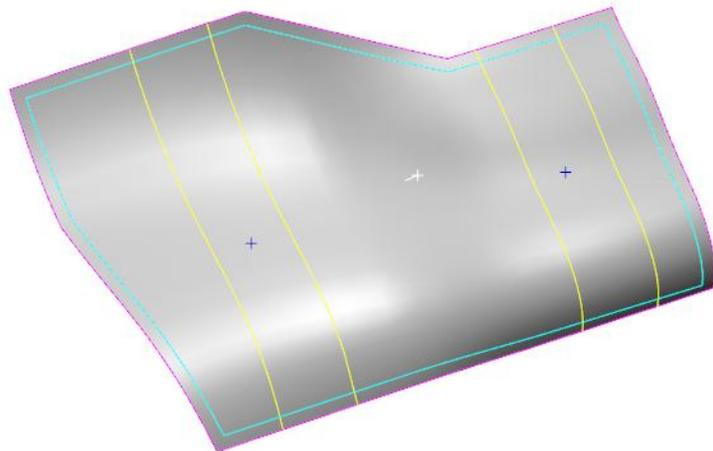

Figure 12–1
1. Open **MULTI_SURFACE_OFFSET_A.prt**. The model displays as shown NX in Figure 12–1.